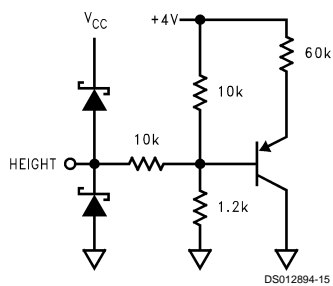

FIGURE 9.
**Pin 2. HEIGHT:** A 0V to 4V DC voltage applied to this pin sets the output amplitude of the sawtooth waveform at pin 15 (SAWTOOTH OUT) as well as the output amplitude of the correction waveform at pin 11 (E-W OUT). See Figure 9 for the input schematic.